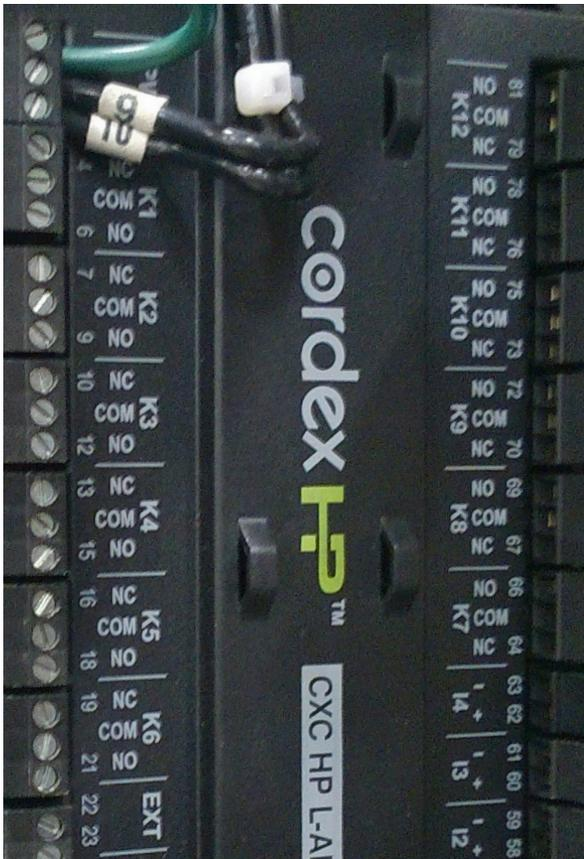

Figure 31: Alarm relay pinouts
1. Use the Form C relay contacts on the ADIO low voltage peripheral to extend various alarm or control signals to an external site monitor. Figure 31 shows the peripheral alarm relay pinouts. Table M lists the factory default settings.